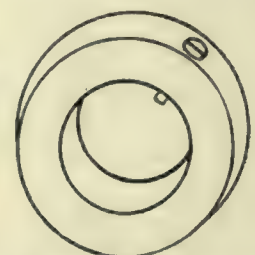

Fig. 4.—Slotted Head Set-Screw.
(2). By using a flat-head set-screw slotted to take a screw-driver as in Fig. 4.